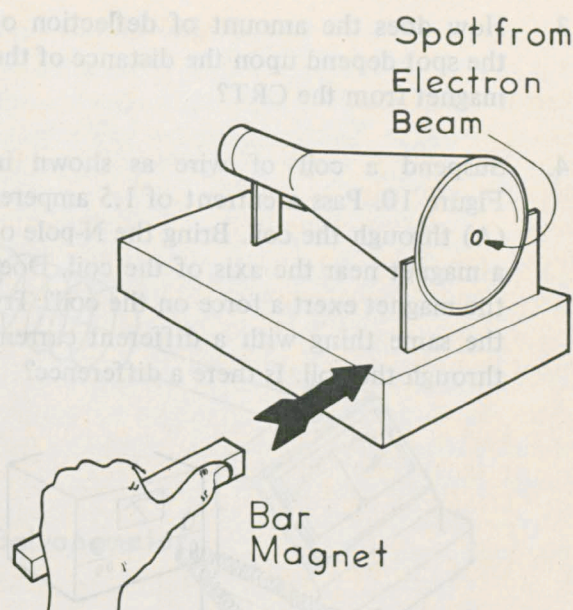

Figure 9.
1. Do magnets exert forces on electric charges? To answer this question, do the following demonstration. Turn on a cathode-ray tube or an oscilloscope and obtain a spot on the screen. This spot is due to a beam of electrons moving through the tube. The electrons strike the sensitive screen and cause it to give off visible light at the impact point. Bring the N-pole of a magnet near the cathode-ray tube (CRT) from one side of the spot, as shown in Figure 9. What happens to the spot on the screen?